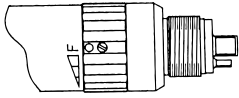

Fig. 3
- (1) Forward Rotation : Turn the FWD/REV Change Ring to “F” as shown in Fig.3.